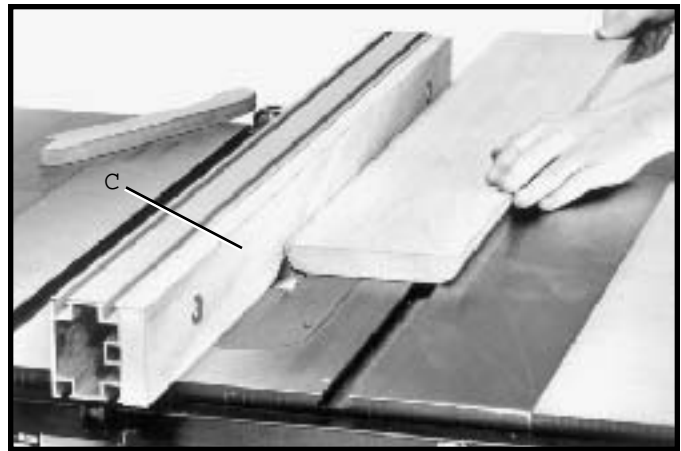

Fig. 117
It is necessary when using the moulding cutterhead to add wood-facing (C) to the face of the rip fence, as shown in Fig. 117. The wood-facing is attached to the fence with wood screws through holes which must be drilled in the fence. 3/4 inch stock is suitable for most work although an occasional job may require 1 inch facing.
Position the wood-facing over the cutterhead with the cutterhead below the surface of the table. Turn the saw on and raise the cutterhead. The cutterhead will cut its own groove in the wood-facing. Fig. 117, shows a typical moulding operation. NEVER USE MOULDING CUTTER-HEAD IN A BEVEL POSITION.